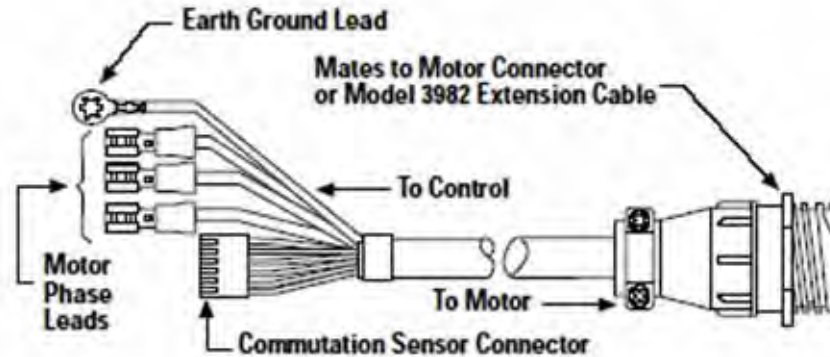
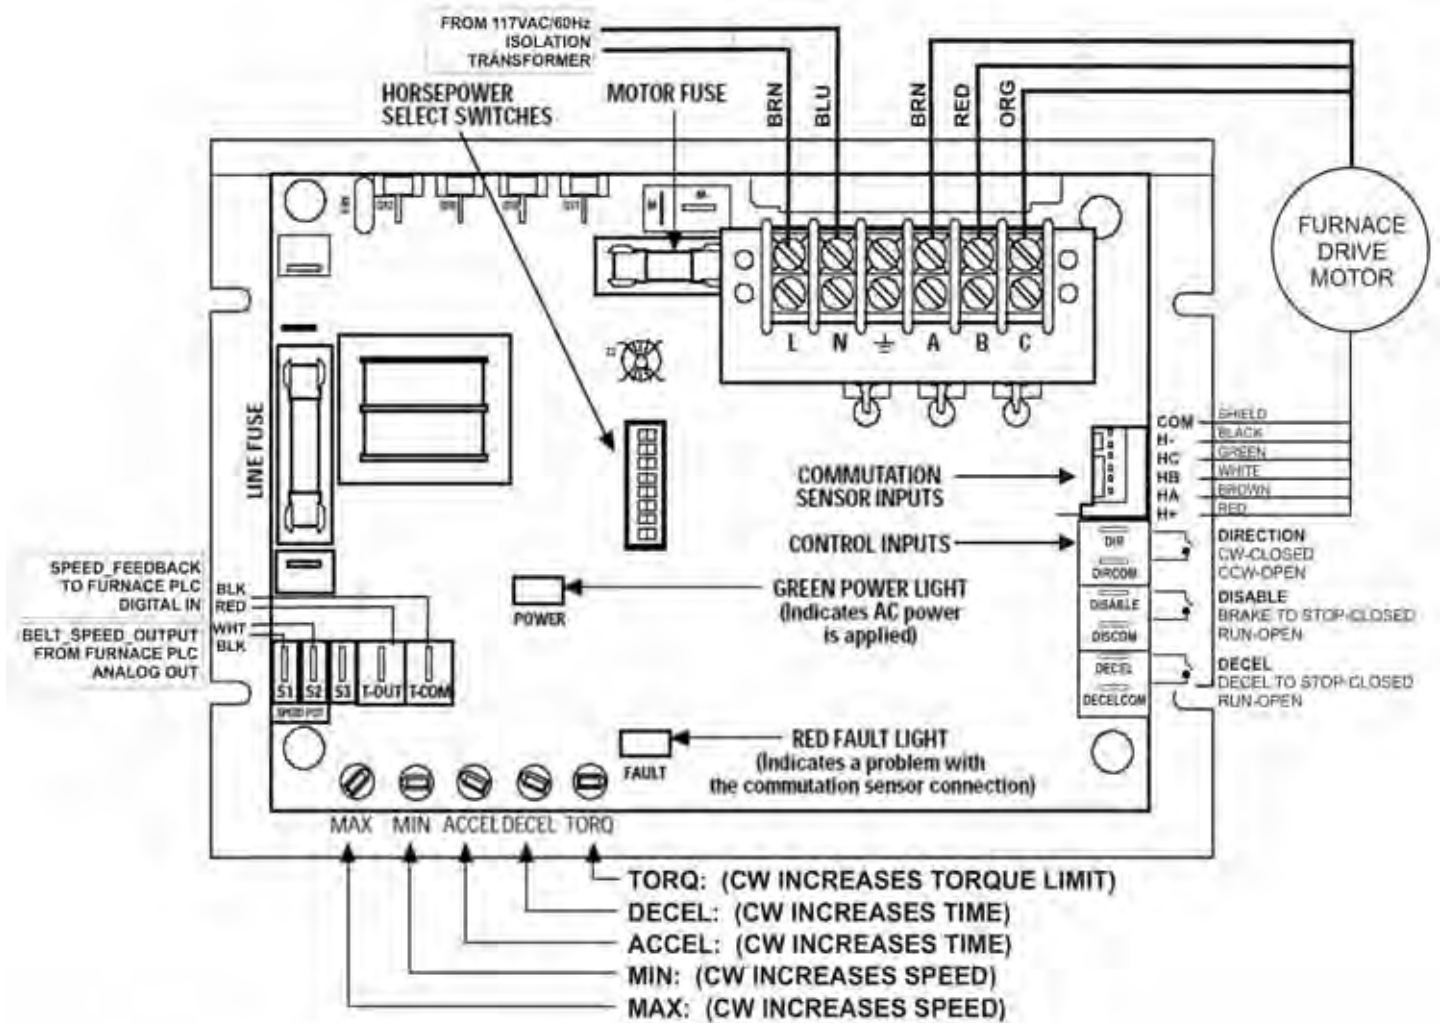

Figure 3 - Model 3983 Cable Assembly
Figure 4 - Control Circuit Board Detail
| Figure 3 - Model 3983 Cable Assembly | 4 |
| Figure 4 - Control Circuit Board Detail | 5 |
Cable Assembly: The Model 3983 Cable Assembly, shown in Figure 3, is designed to simplify the electrical connections to the ABL-3911C Control. One end of the cable which connects to the motor is terminated with a circular type connector. The other end which connects to the control has a six-pin rectangular connector, three individual motor phase leads with quick disconnects, and an earth ground lead. This cable assembly must be modified for installation on furnace drive applications (see Page 5).
Horsepower (DIP Switch) Settings: Figure 4 shows a Horsepower Select switch on the main control board which contains eight switch levers numbered 1 through 8. The chart in Table 1 shows the proper DIP switch settings for various Bodine furnace drive motor types.
Commutation Sensor Connections: The commutation sensor leads are prewired in the Model 3983 cable assembly and terminated in a six-pin connector (Figure 3). There is a corresponding "Commutation" connector on the main control board (Figure 4). Mate the polarized cable connector to the "Commutation" connector. The connectors can only mate one way.
Motor Phase Connections: If installing a new cable, locate the barrier terminal block mounted to the bracket above the main control board and make the following modifications. Refer to Figure 4:
Line Fuse: The location of line fuse (F1) is shown in Figure 4. It should always be replaced with a fuse of the same type and rating. Its rating can be determined by referring to the chart in Table 1.
Motor Fuse: The location of motor fuse (F2) is shown in Figure 4. The fuse rating will vary with the size of the motor used. To determine the proper fuse rating, locate the first four digits of your motor's type number on the motor nameplate. Find the same four digits in the chart in Table 1 to determine the fuse size. The ABL-3911C and ABL-3921C are supplied with the fuses listed in Table 1.
Power Input: Refer to Figure 4. Locate the barrier terminal block mounted to the bracket above the main control board and connect AC power to the barrier terminal block as follows:
5. If the motor does not operate, first observe if the green POWER light and red FAULT light are on (refer to Figure 4 for location). Then disconnect the AC power to the control and check all connections and fuses. If a fuse is blown and the motor is not locked (stalled) or overloaded, do not replace the fuse.
Refer to Figure 4 for the trim potentiometer locations and approximate initial settings. If you need to readjust the control for your specific applications, proceed as follows:
The lowest MAX trim potentiometer setting (fully counterclockwise) corresponds to 60% of rated speed and the highest MAX trim potentiometer setting (fully clockwise) corresponds to approximately 120% of rated speed. Refer to Figure 4 for trim potentiometer location and settings. Adjustment of the MIN and MAX trim potentiometers may have to be repeated several times to arrive at the desired speeds.
Torque (Current) Limiting Adjustment: The TORQ trim potentiometer (Figure 4) has been calibrated to limit current to 200 to 250% of the motor's rated current, assuming the DIP switches are set properly. The motor's torque output can be reduced to zero or stall torque. Turn the TORQ trim potentiometer counterclockwise to decrease the torque and clockwise to increase the torque.
Acceleration Adjustment : Adjusting the ACCEL trim potentiometer (See Figure 4) counterclockwise decreases the motor's acceleration time down to a minimum of approximately 0.2 seconds. A clockwise adjustment increases the rate up to a maximum of approximately 10 seconds.
Deceleration Adjustment: Adjusting the DECEL trim potentiometer (See Figure 4) counterclockwise decreases the motor's deceleration time down to a minimum of approximately 0.2 seconds. A clockwise adjustment increases the rate up to a maximum of approximately 10 seconds.